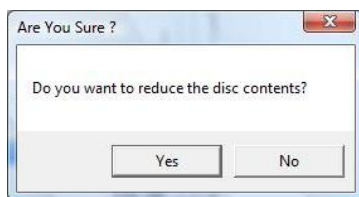

Figure 5-4
1. When you start burning, a dialog box (Figure 5-4) appears.